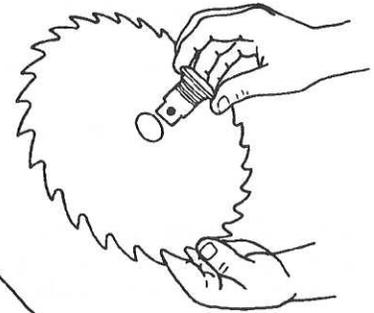

Fig. B-59b
b. Hold the blade with the teeth pointing toward you, as shown in Fig. B-59b, then insert the arbor through the hole. Replace the nut and finger tighten it, as in Fig. B-59c.